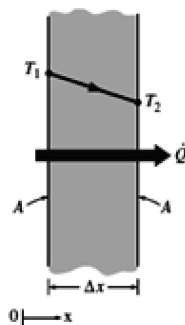

Fig. 1.4 Heat conduction through large plain wall
- Consider steady heat conduction through a large plane wall of thickness $\Delta x = L$ and area A , as shown in figure 1.4. The temperature difference across the wall is $\Delta T = T_2 - T_1$.